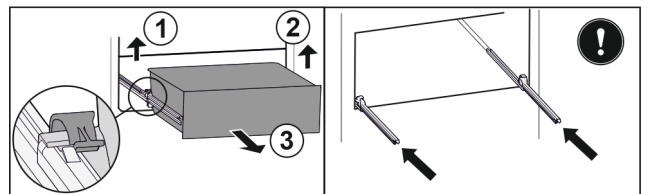

Fig. 164
- ▶ Lift left clamp and simultaneously pull drawer forwards on the left. Fig. 164 (1)
- ▶ Lift right clamp and simultaneously pull drawer forwards on the right. Fig. 164 (2)
- ▶ Remove drawer to the front. Fig. 164 (3)